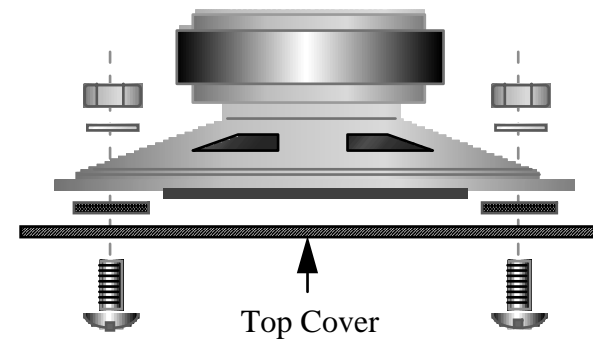

Figure 7-2
- Place the speaker on top of the fibre washers and grille cloth. Secure it with four 3/8" (9.5 mm) screws, #4 lock washers, and 4-40 nuts (Figure 7-2). Do not over-tighten the nuts.